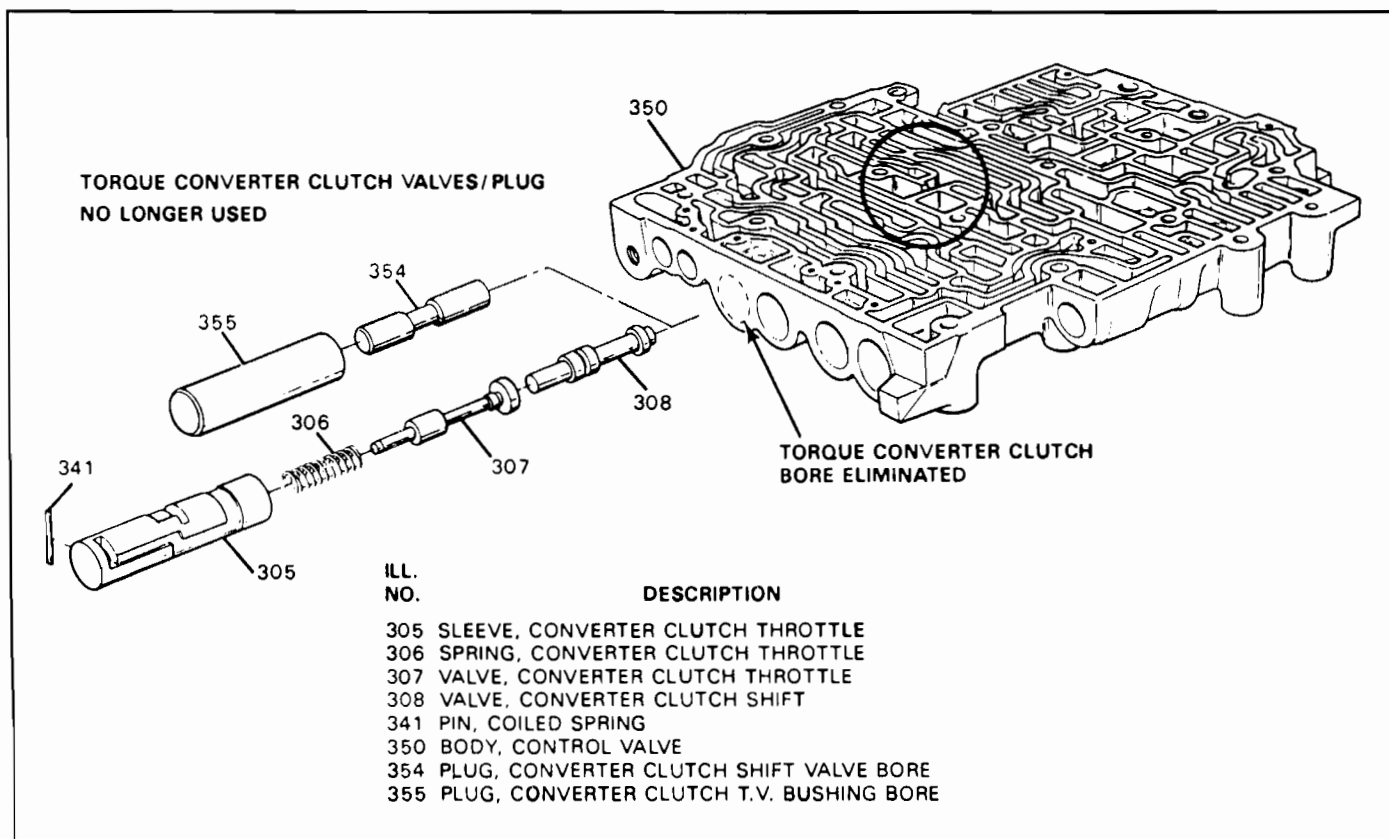

Figure 8
- (1) **VALVE BODY CASTING** - The new valve body casting will no longer have the TCC bore, and now contains a "Notch" in the worm track area allowing 2nd clutch oil into the TCC Signal circuit (See Figure 8).